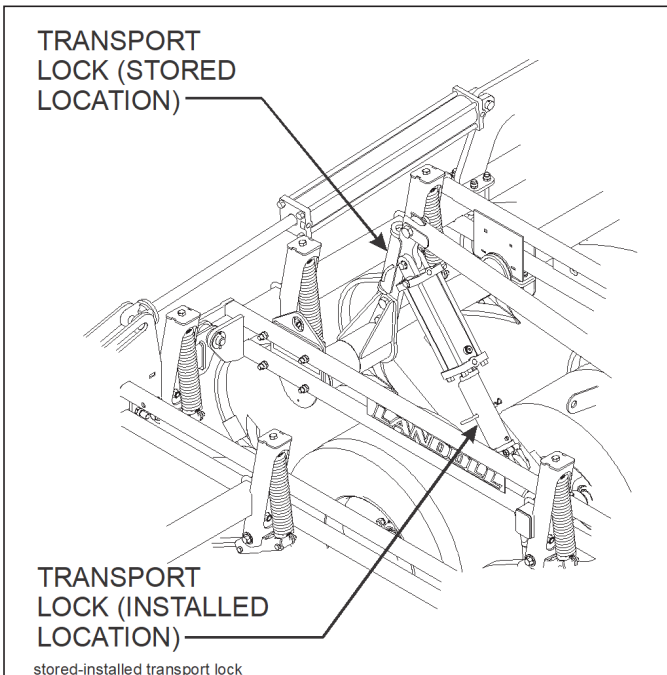

Figure 4-2: Transport Lock Locations
2. The hydraulic system is not filled with oil and should be purged of air before transporting and field operations. Carefully hitch the Field Cultivator to the tractor and connect the hydraulic lift hoses. Check to make sure the tractor hydraulic reservoir is full of the manufacturer's recommended oil. Slowly raise the machine, and continue to hold the hydraulic lever until all lift cylinders are fully extended. With all cylinders fully extended remove the lockouts *See Figure 4-2*. Lower and raise the unit to verify that all cylinders are working simultaneously throughout the stroke. If the cylinders are not working evenly or together, fully extend the lift cylinders and continue to hold the lever to purge any remaining air. Do not loosen any hoses or fittings. Recheck tractor reservoir to make sure it is within operating limits.